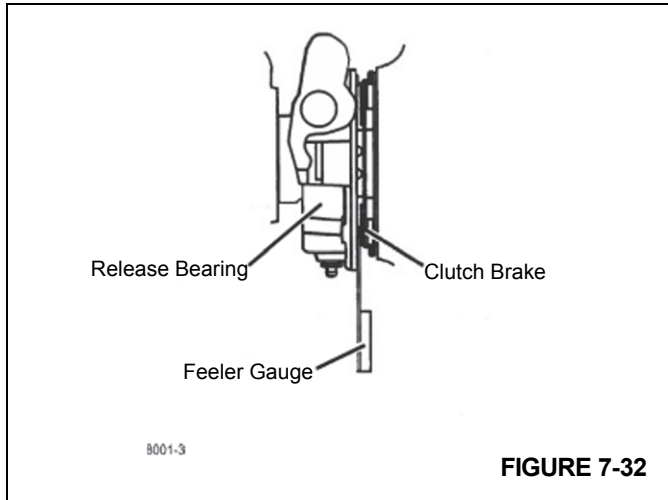

FIGURE 7-32
6. Clutch brake squeeze should begin 12.7-25.4 mm (0.50-1.00 in) above the end of pedal stroke. Insert a 0.25 mm (0.010 in) feeler gauge between the release bearing and the clutch brake (Figure 7-32). Press the pedal down to clamp the gauge. If the gauge does not clamp, adjust linkage to achieve clutch brake squeeze then repeat this step.